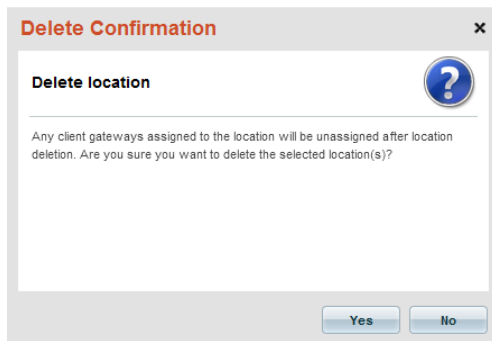

FIG. 189 Delete Confirmation dialog - Delete Location
- The program will prompt you to verify this action before proceeding (FIG. 189):